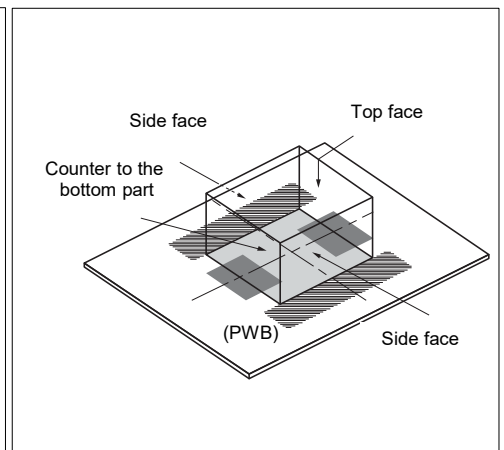

Fig.3
- Keep a component placed around the inductor from being in contact with the surface (top face, side face) of the inductor. (MC series/* Fig. 3)